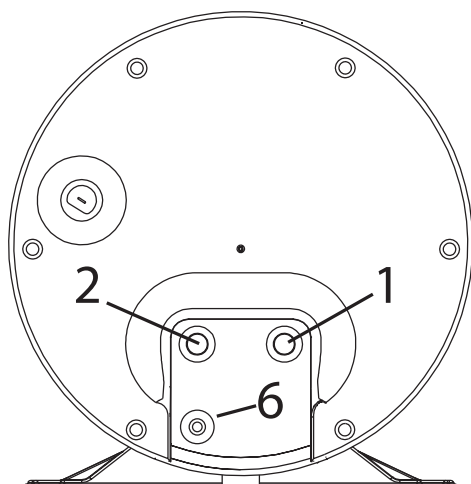

fig. 39
- Connect the cold water supply line and the outlet line at the appropriate connection points (fig. 39).